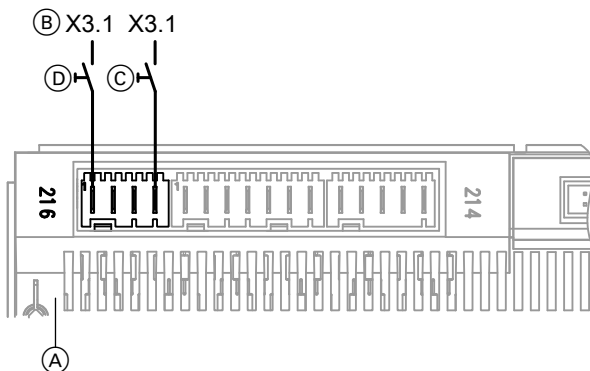

Fig. 40
- To the heat pump control unit as shown in Fig. 40